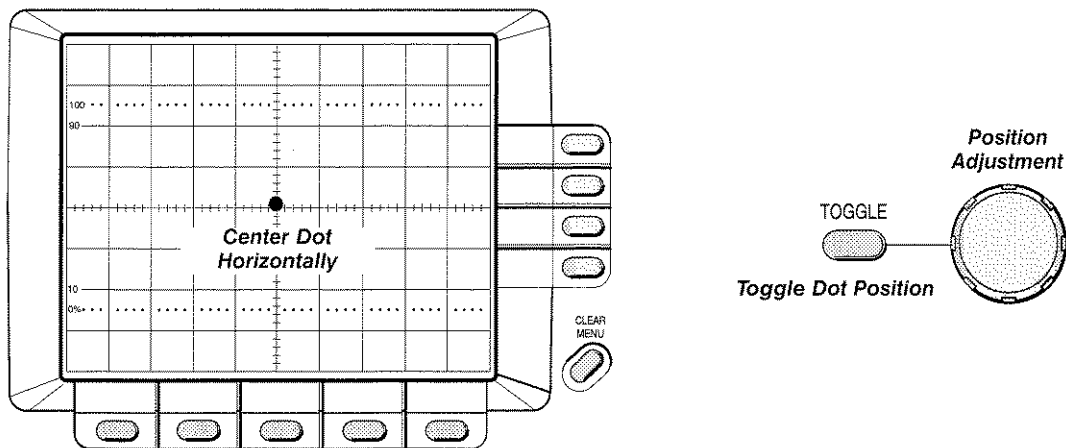

Figure 6-4: Horizontal Adjustments (Two)
9. Use a combination of the **TOGGLE** button and the General Purpose Knob to horizontally center the single dot at the center of the screen (see Figure 6-4).